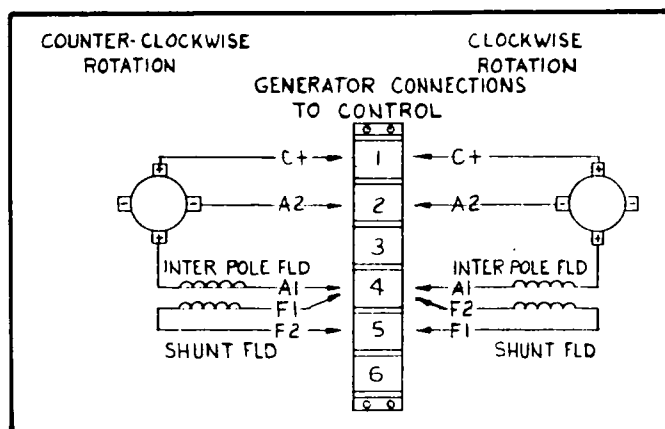

FIGURE 4. WIRING CONNECTION
1. Connect generator to control for clockwise rotation (See Figure 4).